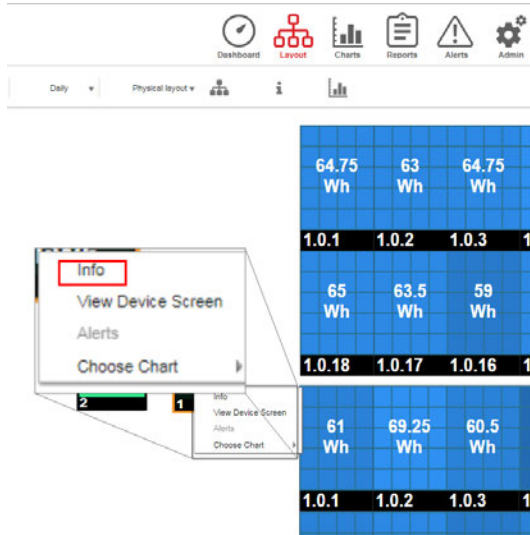
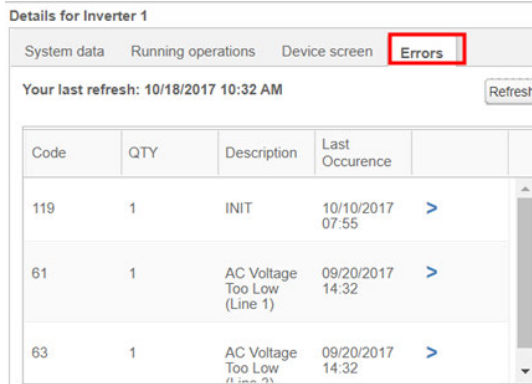

Figure 37: Inverter menu
Figure 38: Inverter details - Error list
- Right-click the inverter and select **Info** from the menu (Figure 37). The inverter details window is displayed (Figure 38).